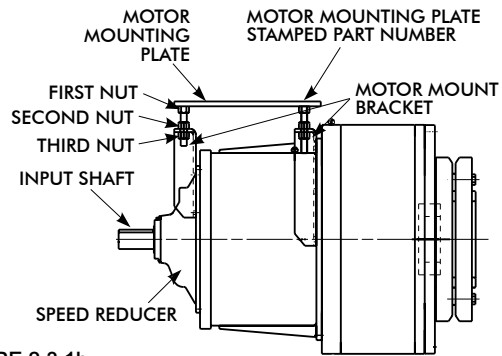

FIGURE 2.3.1b
2. Attach the third nut loosely onto each cap screw to hold the mounting plate/caps crew assembly onto mounting brackets; reference Figure 2.3.1b.